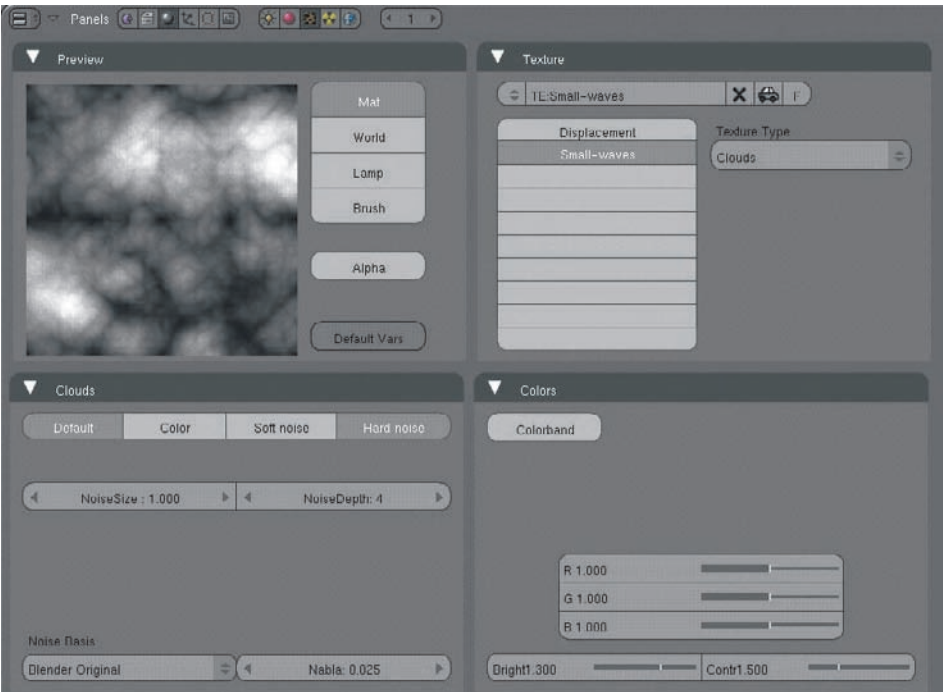
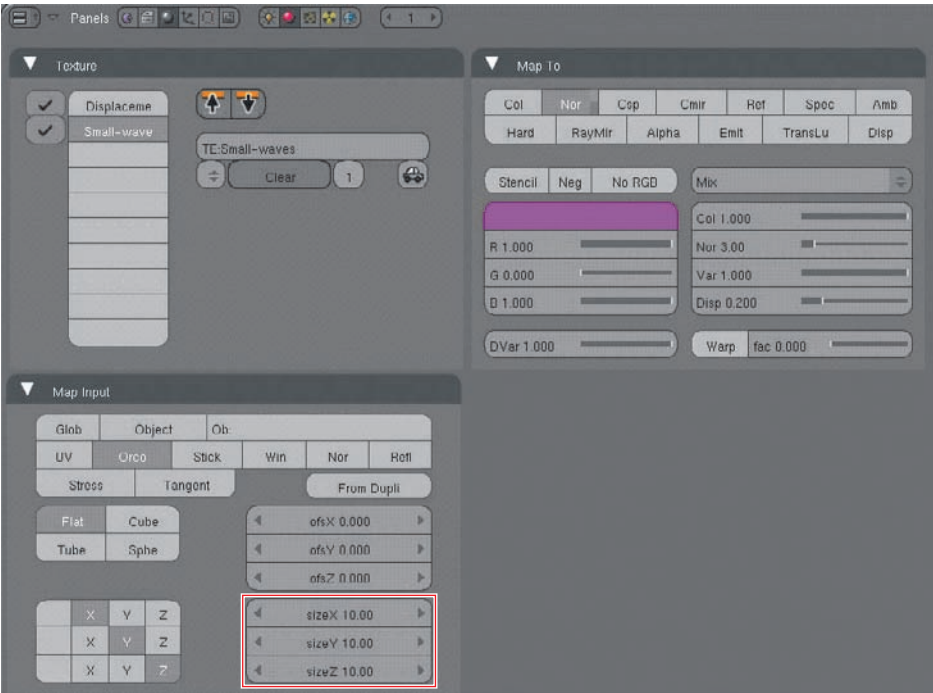
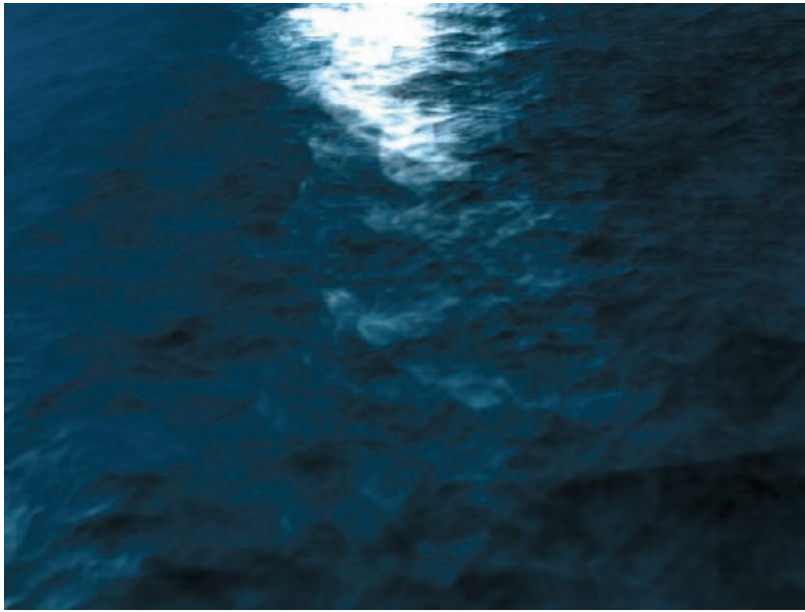

Figure 1.38 Small-waves texture
Figure 1.39 Small-waves texture mapping
Figure 1.40 Test render
6. Make a texture to represent the small wavelets on the surface of the water, and call it **Small-waves**. This texture will be a hard noise texture, as shown in Figure 1.38. The mapping values for the texture are shown in Figure 1.39. Note that Size is set to 10.0 for all dimensions, to make these wavelets small. The Map To value is Nor. Change the Nor value in the Map To panel to 3.0. When you take a test render, you should see something like Figure 1.40. Once again, the placement of the lights will make a lot of difference in exactly how your render turns out. Experiment a bit with this.